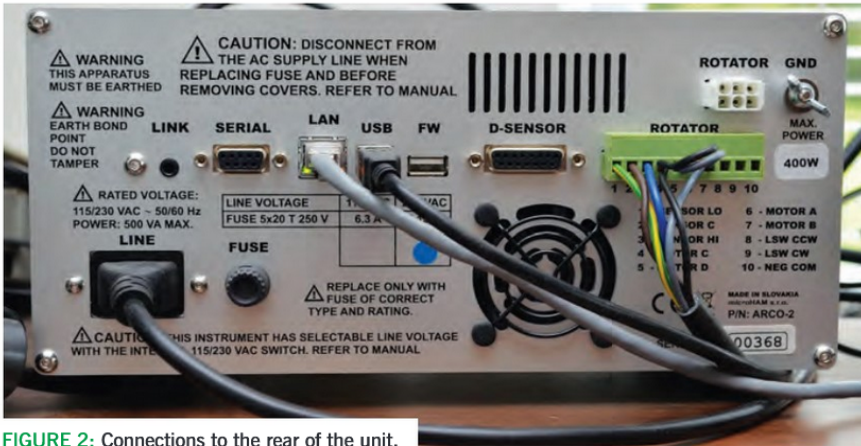

FIGURE 2: Connections to the rear of the unit.
On the back is a standard AC connection using the included standard power cord (see Figure 2). It's internally switchable to 115/240 V AC. Above the AC LINE connection is a 3.5mm stereo jack socket, which can be used to link multiple ARCO controllers together. There's a DB9 serial RS-232 computer control port, a LAN Ethernet RJ-45 port to control the unit over IP, a USB-B port (USB) for computer control, a USB-A port (FW) for key-pad connection or local firmware update, and a DB15 female (D-SENSOR) socket for digital position sensors.